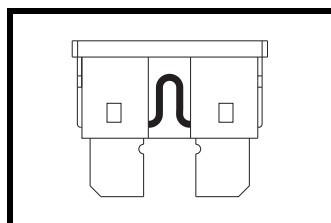

Figure 24. Working Fuse
2. Examine the fuse to be sure it is blown. **See figures 24 and 25.**